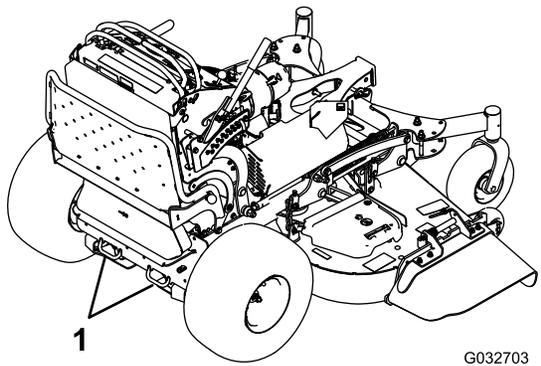

Figure 17
7. Tie down the machine near the front caster wheels and the rear bumper with straps, chains, cable, or ropes (Figure 17). Refer to local regulations for tie-down requirements.